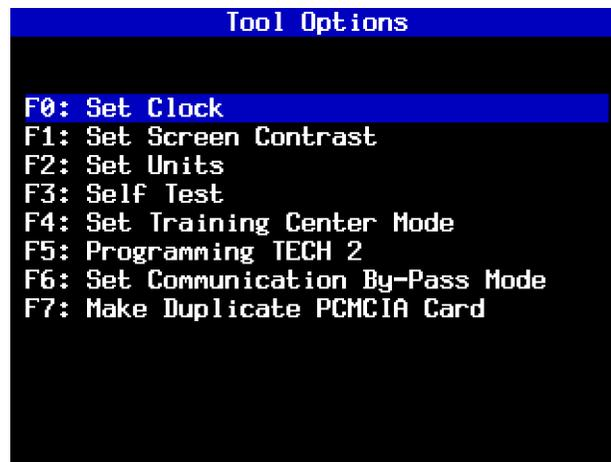
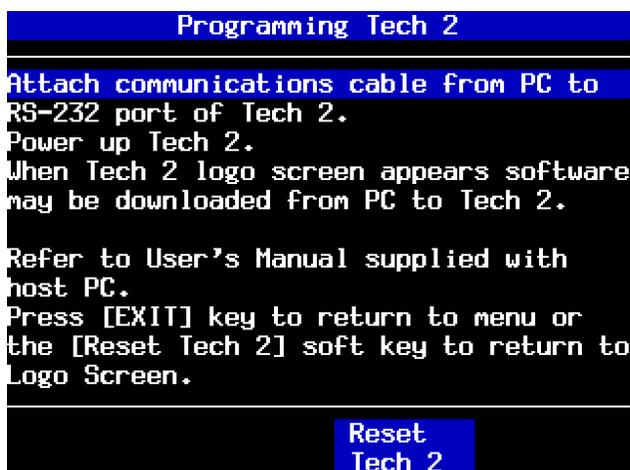

FIGURE 8-2. Set Clock Selected on Tool Options Menu
FIGURE 8-9. Programming Tech 2 Screen
Select F3: Tool Options from the Tech 2 Main Menu (Figure 6-2) to obtain the Tool Options menu (Figure 8-2), which provides features you can use to control various Tech 2 settings in addition to the self tests shown in Chapter 6.
After you select F5: Programming TECH 2, a Programming Tech 2 screen appears (Figure 8-9) with instructions for downloading from a PC to the Tech 2 scan tool.
- **F3: Programming Tech 2** provides instructions for downloading from a PC to the Tech 2 scan tool. This option duplicates Tool Options Menu function F5: Programming TECH 2 (see Figure 8-2 and Figure 8-9).